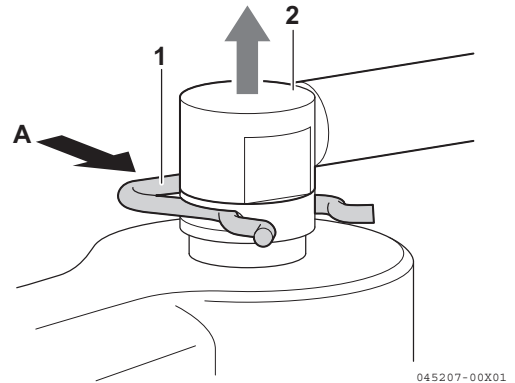

Figure 7-7
4. Remove the fuel return hose from the injector. Pull out the fuel return hose connector (back leak rail connector) (Figure 7-7, (2)) vertically while fully pressing the retaining ring (clip) (Figure 7-7, (1)) attached on the top of the injector in the direction of the arrow A (Figure 7-7). Do not hold the hose. This may damage the hose. Do not reuse the removed clips.